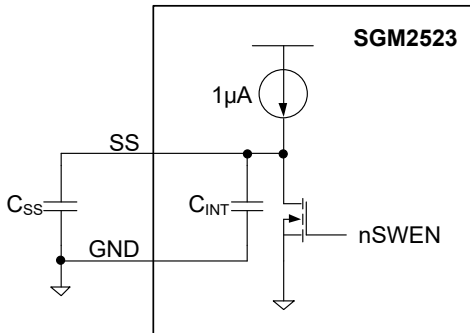

Figure 4. Output Ramp Time  $t_{dVdT}$  is Set by  $C_{dVdT}$
SGM2523 is designed to control the in-rush current upon insertion of a card into a live backplane or other "hot" power source. This limits the voltage sag on the backplane's supply voltage and prevents unintended resets of the system power. A slew rate controlled start-up (SS) also helps to eliminate conductive and radiated interference. An external capacitor from the SS pin to GND defines the slew rate of the output voltage at power-on (as shown in Figure 4). The equation governing slew rate at start-up is shown in Equation 1: